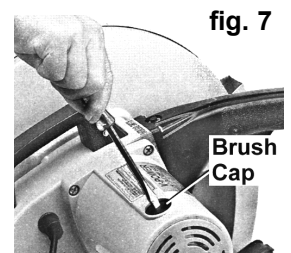

fig. 7
- 6.4. To change the motor brushes removed the brush caps with a screwdriver (fig. 7). Replace the carbon brushes and re-install the brush caps.